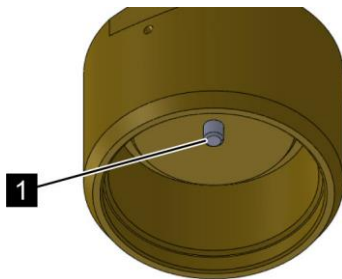

Fig. 180: Release pin
8. ➤ Check whether the release devices of the associated extinguishing agent container/s has/have been activated (Fig. 180/1) and that no selector valve is open.